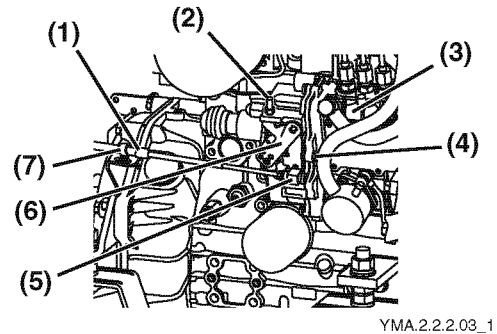

Figure 4-13
The various engine controls are connected to the remote control lever (Figure 4-13, (6)) by the remote control cable (Figure 4-13, (1)).
1. Check that the control lever (Figure 4-13, (6)) on the engine moves to the high-idle and low-idle stop positions when the remote control lever is moved to "H" (high idle) and / or "L" (low idle) respectively.
2. If there is a discrepancy, loosen the clamp (Figure 4-13, (7)) for the remote control cable (Figure 4-13, (1)) on the engine and adjust as necessary.
Do not adjust the high-idle limiting screw (Figure 4-13, (2)). This will void the engine warranty.